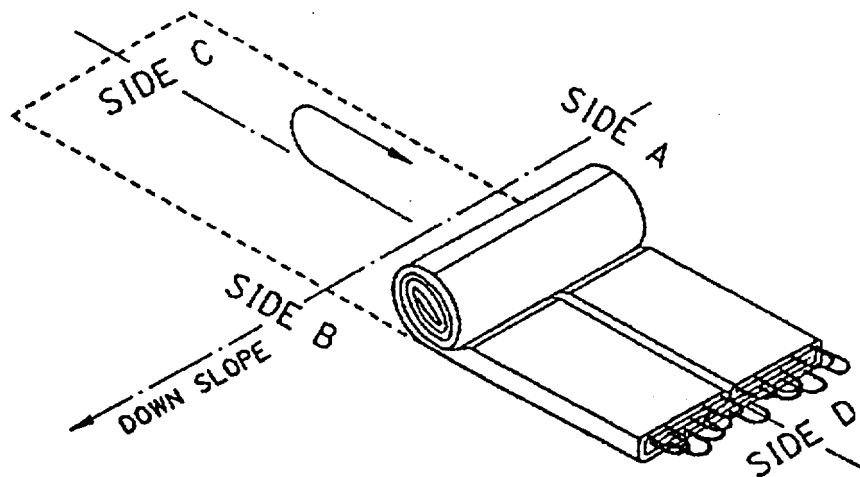

Figure 4-19. Rolling for storage
- j. After sides A and B are properly folded, begin rolling from side C (see figure 4-19.).
- (1) Keep the vent opening clear in order to continue evacuating air as the tank is being rolled.
- (2) The tank must be rolled very tightly to ensure that it will fit within the dimensions of the skid.
- (3) Roll at least one full roll past the vent opening. Maintain the width of the folded tank while rolling.